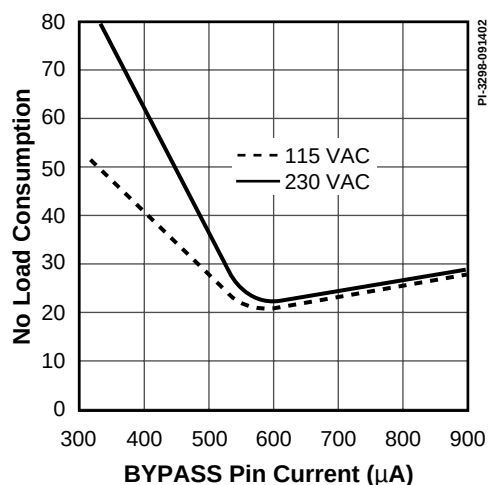

Figure 2. No-load Input Power vs. BYPASS Pin Current.
the internal current source at no-load. Other load conditions are not important as the device will be powered from the DRAIN pin if bias is lost, allowing a simple flyback winding to be used. Figure 2 shows that the bias winding and choice of R2 should provide approximately 550 μA at no-load to minimize consumption.
- Design bias winding circuit to provide approximately 550 μA at no-load. Figure 2 shows the details.